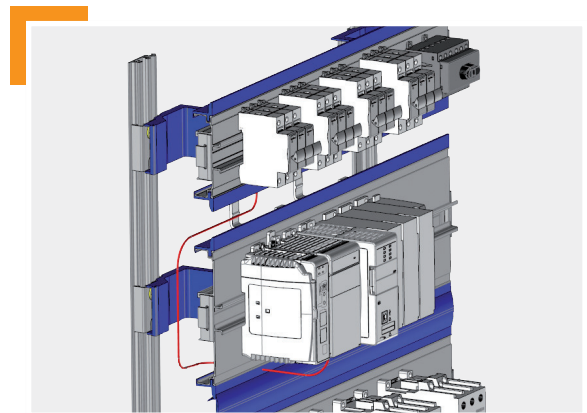

Figure 6
The component access point is easily accessible as nothing is blocking the way. The wire runs horizontally in between the two combs to the left or the right. (**To the left in fig. 6**). Once you have reached the far left (or right) you can route the wire up and down in the U-shaped bracket (EM) until you reach the level of the point B. Then you go left or right horizontally until you reach the connection point B. The pattern is the same as the traditional wire way going horizontally and vertically. The vertical wire ways are now pushed on the side underneath the component level. The wiring is to be done loose as there are no confined section limiting the amount of wire in the tray.